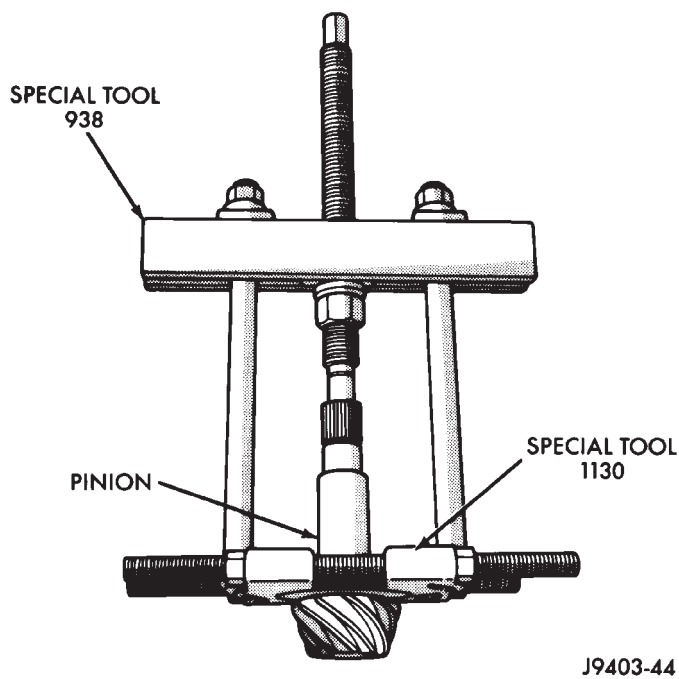

Fig. 26 Inner Bearing Removal
(9) Remove the inner bearing from the pinion with Splitter 1130 and Bridge 938 (Fig. 26).
(10) Remove the depth shims from the pinion gear shaft. Record the thickness of the depth shims.